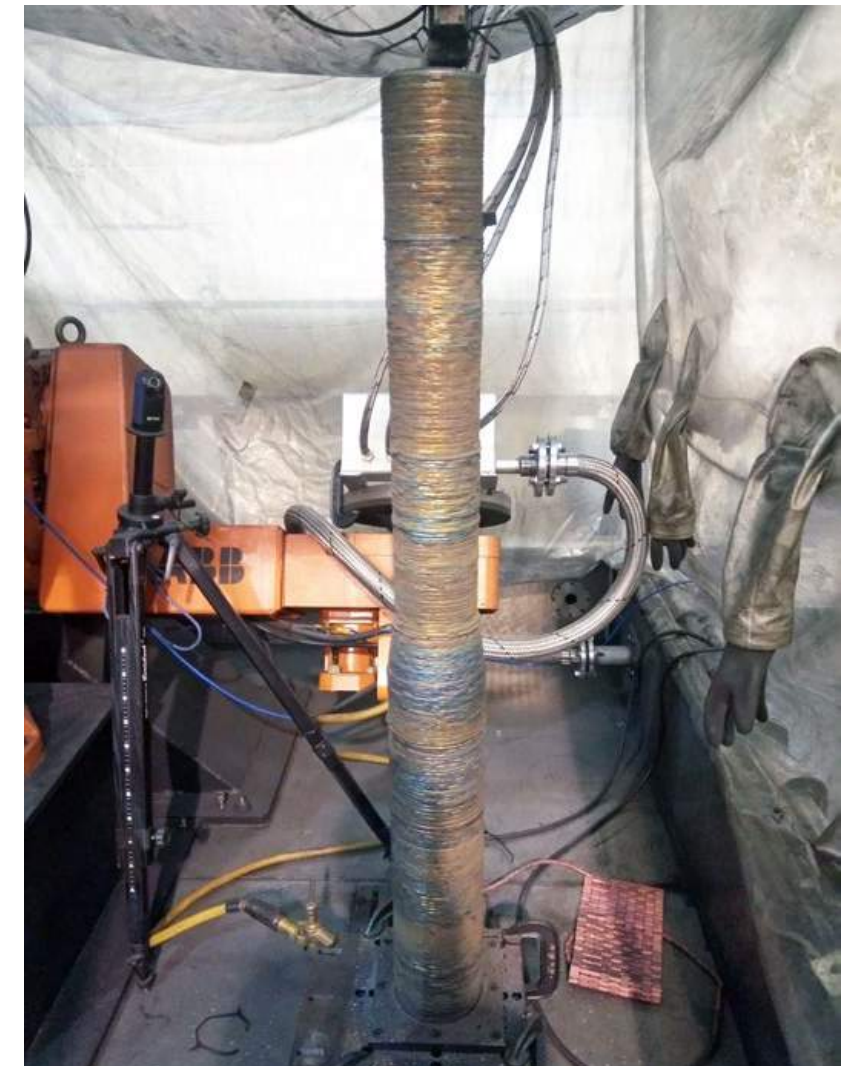

Fig. 7 A cross-over for BP in production at the AFRC Strathclyde University. Produced via WAAM in Inconel 718 in shielded environment based on a BP design
- A BP cross-over in Inconel wire, in two versions: limited scale and full scale (Fig. 7)